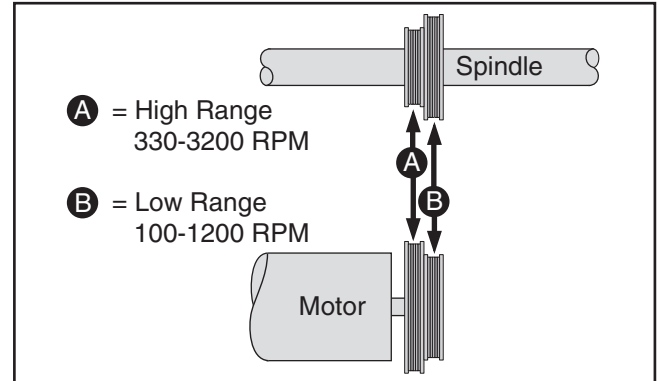

Figure 28. Speed range belt positions.
5. Reach into belt access cavity and roll belt onto desired set of pulleys, as shown in **Figure 28**.